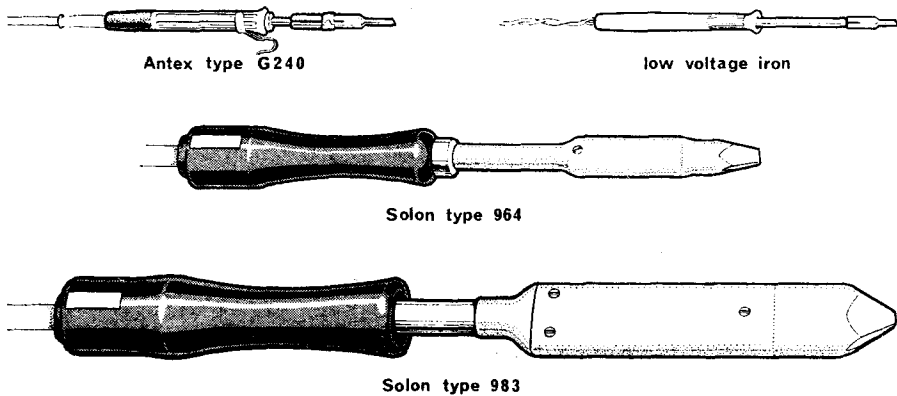

Fig. 20. Soldering irons
28. Soldering irons. To enable the solder to run freely and to combine with the surfaces to be joined *and* the surfaces must be at the correct temperature. The normal method of applying heat is with an electrically-heated soldering iron. The working end, or 'bit', is made from copper because it is a good conductor of heat and it alloys with solder to give a 'tinned' working face. A large number of different irons are in service use, mainly for specialised tasks, but most general work can be done using one of the types described below (see Fig. 20).